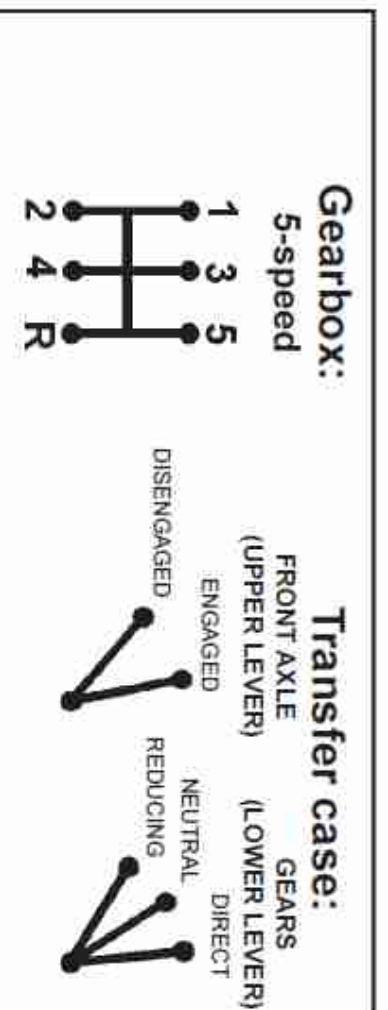

Fig. 3.2. Diagram of gearbox and transfer case lever positions
- 13 — front axle engagement lever (Fig. 3.2). It has two positions: front — axle engaged; rear — axle disengaged;
- 14 — transfer case gear change lever (Fig. 3.2). It has three positions: front — direct drive engaged, middle — neutral, rear — lower gear engaged;
- 15 — gearshift lever (Fig. 3.2);